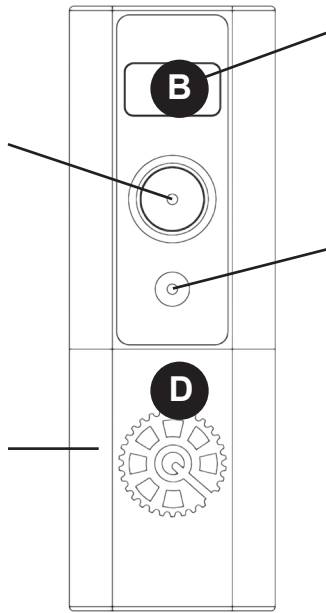

Fig.11
The Remote Control handset (5) is powered by two 'AA' 1.5V batteries, to install these slide off the end case (Fig.10.D) of the handset as seen in Fig.11. Ensure only leak proof batteries are used. Check with local authority regarding the correct disposal of used batteries. Remove batteries from handset during long periods of inactivity.